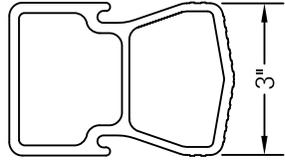
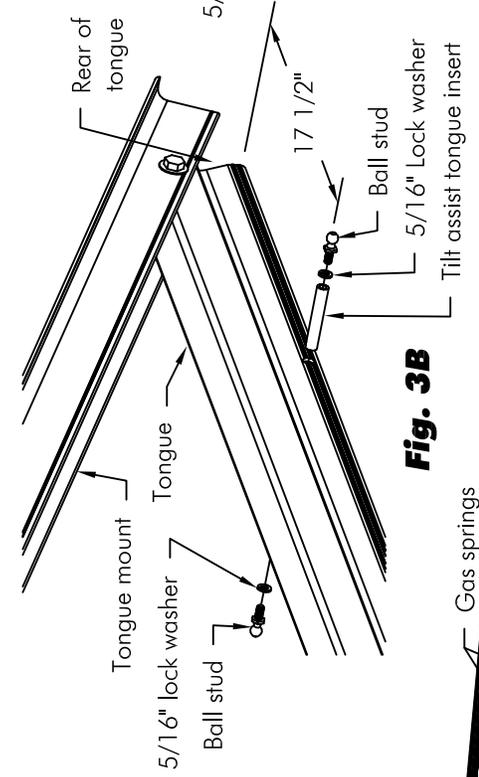
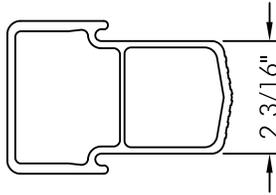

Fig. 3A
Fig. 3B
Fig. 4A
3. Determine which style tongue your trailer has by looking at the end of your trailer tongue and comparing it to Fig. 3A and Fig. 4A. For tongues similar to Fig. 3A, screw a ball stud and lock washer onto one end of the tilt assist tongue washer onto one end of the tilt assist tongue insert. Place the insert in the hole that is 17 1/2" from the back of the tongue and through the other side. Attach the ball stud with a lock washer to the other side of the insert as shown in Fig. 3B. Torque ball studs to 25 ft/lbs.
4. If your tongue is similar to Fig. 4A, you will need to drill the hole that is 17 1/2" from the back of the tongue larger using a 1/2" drill bit. Screw a ball stud and lock washer onto one end of the tilt assist tongue insert. Slide one tilt assist insert spacer over the insert and up to the lock washer. Insert the tilt assist tongue insert through the Ø1/2" hole so it sticks out the other side. Slide the other spacer over the end of the insert and fasten a ball stud and lockwasher. Torque ball studs to 25 ft/lbs.